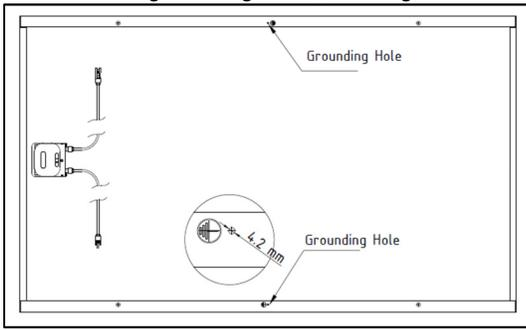
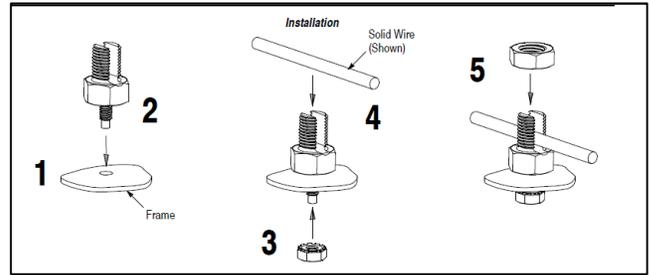
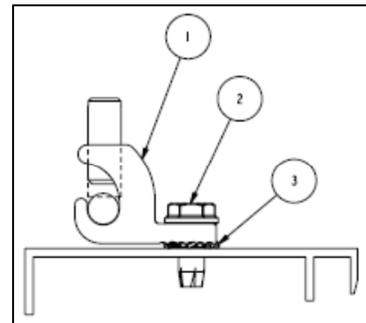
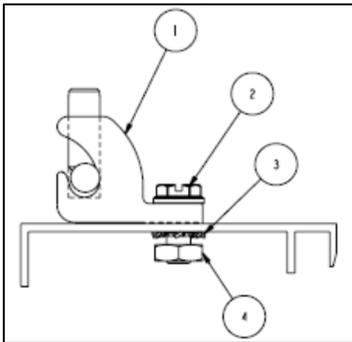

Figure 3: Grounding Hole Location
Figure 6: Solklamp Grounding Bolt Diagram
Figure 7: Self Threaded Grounding Lug: Grounding Diagram
Figure 8: Grounding Lug with Nut: Grounding Diagram
- When using provided grounding holes on module frame locate 4.2 +/- 0.2 mm diameter grounding holes shown in Figure 3 that are marked by the grounding symbol. . The flange on which the grounding hole is located
Attach the grounding conductor to the module frame through at least one of the two grounding holes, See Figure 3.
The grounding clip manufactured by Tyco Electronics Corp. (Part number: 1954381-1) is UL listed and designed for module grounding applications using a solid 10 to 12 AWG un-insulated ground wire. It is attached to grounding hole on module frame, Figure 3, by an integrated, 10-32 in. self-tapping screw. Place the grounding clip onto the frame, making sure that the screw straddles the grounding hole. Using a No. 2 cross-recessed screwdriver, thread the screw into the hole until the head is flush with the base and the base is flush with the frame, then tighten the screw with another 1/4 to 1/2 turn. Recommended torque is between 20 in-lb (2.3 N-m) for screw. Insert the wire into the wire slot. Press down on both ends of the wire (the wire slot will cause the wire to form a slight curve). Manually, or using channel lock pliers, push the slider over the base until it covers the base. This will terminate the wire.
grounding applications using a solid 6 to 12 AWG un-insulated ground wire. It is attached to grounding hole on module frame, Figure 3, by an integrated, 8-32 in threaded post and nut. Locate the grounding hole on the underside of the module frame (1). Insert the threaded post end of the wire bolt into the hole (2). Finger-tighten the hex washer nut onto the threaded post (3). Position the grounding wire into the wire slot (4). Finger-tighten the nut onto the wire slot end until wire is compressed (5). Using a 9/16" open end wrench to hold the hex body of the wire bolt, and using a 9/16" socket wrench, tighten the mounting hex washer nut (3) to a torque of 25 in-lb (2.82 N-m). While holding the hex body, use an 11-32" socket wrench to tighten the wire binding hex nut (5) to a torque of 45 in-lb (5.08 N-m). See Figure 6.
The grounding bolt manufactured by IlSCO (Part number: GBL-4DBT) and bolt manufactured by Burndy (Part number: CL501TN) are UL listed and designed for module grounding applications using a solid 4 to 14 AWG un-insulated ground wire. Locate module grounding hole, Figure 3. Assemble a # 10 stainless steel star washer (1) and #10-32 self-tapping screw (2) through grounding lug (1) and into the module grounding hole until washer and lug are flush with frame as shown in Figure 7. Using a 5/16 in. open ended wrench to tighten the screw (2) another 1/4 to 1/2 turn with recommended torque between 20 and 25 in-lb (2.3 and 2.8 N-m). Insert grounding wire into conductor slot of lug and tighten threaded set screw using a 5.5 x 0.8 mm (3/16 x 0.025 in.) flat headed driver to the torque specified in Table 1 to compress the conductor.
The grounding bolt manufactured by Burndy (Part number: CL501TN) is UL listed and designed for module grounding applications using a solid 4 to 14 AWG un-insulated ground wire. Locate module grounding hole, Figure 3. Using a 5/16 open ended wrench, thread #10-32 self-threading screw through the grounding hole to open up the hole size and remove. Assemble a #10-32 bolt (2) through the grounding lug (1) and into the module grounding hole. Install a # 10 stainless steel star washer (3) and hex nut (4) around the frame until washer and lug are flush with frame, as shown in figure 8. Using two 5/16 in. open ended wrenches to tighten the screw (2) and bolt (4) another ¼ to ½ turn with recommended torque between 20 and 25 in-lb (2.3 and 2.8 N-m). Insert grounding wire into conductor slot of lug and tighten threaded set screw using a 5.5 x 0.8 mm (3/16 x 0.025 in.) flat headed driver to the torque specified in Table 1 to compress the conductor.